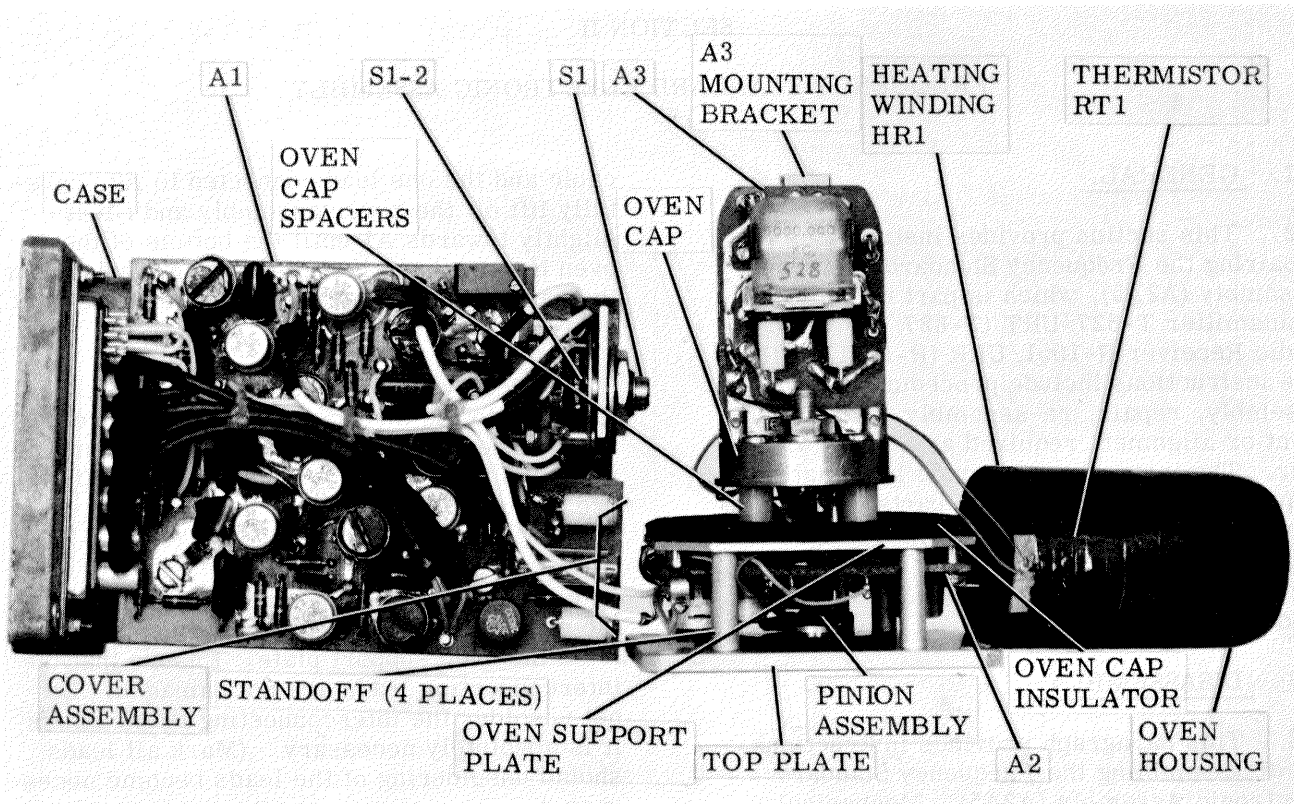

Figure 2-1. Frequency Standard Electronic Assembly, Component Location
2-4. This paragraph provides instructions for disassembling the Frequency Standard Electronic Assembly (A2A5). Mechanical parts are identified in figure 2-1. Reference symbol numbers are included as applicable. In each case, the first mechanical part (MP) number listed pertains to the R-1051/URR; the second, to the T-827/URT. Part numbers and descriptions of mechanical parts are listed by reference symbol number in the Maintenance Parts List in either NAVSHIPS 94840(A) or 94841(A). To disassemble the Frequency Standard Electronic Assembly, proceed as follows:
b. Remove the two screws securing the top plate to the case (figure 2-1).
d. Remove the four screws securing the top plate to the threaded standoffs (figure 2-1). Record the dial setting on the top plate and remove the top plate and pinion assembly (figure 2-1).